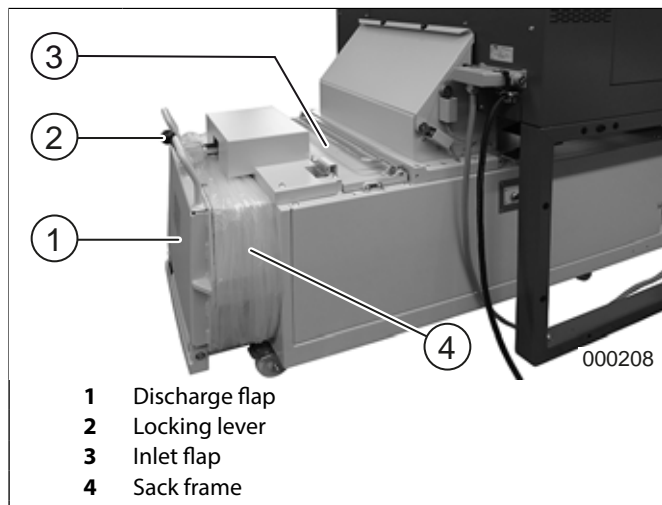

fig. 17 Opening the discharge flap
If the key is pressed and held (for at least 2 seconds), the baling ram travels a short distance in reverse and the locking lever (fig. 17/2) is advanced a short distance (pressure relief at the discharge flap).
The discharge flap (fig. 17/1) can now be opened. This is necessary when the baler is holding the bale in the compacted condition.
1. Open the inlet flap (fig. 17/3).
6. Close the inlet flap (fig. 17/3).
### Opening the discharge flap (fig. 17/1):
1. Press and hold the "Open Discharge Flap" key (fig. 12/2) for at least 2 seconds. The baling ram travels a short distance in reverse, and the locking lever (fig. 17/2) travels a short distance forward in order to relieve pressure at the discharge flap.
2. Slightly lift the locking lever (35).
1. Close the inlet flap (fig. 17/3).
2. Open the discharge flap (fig. 17/1).
4. Remove the sack from the sack frame (fig. 17/4).
5. Close the discharge flap (fig. 17/1), as well as the inlet flap (fig. 17/3), if the shredder is to be used.